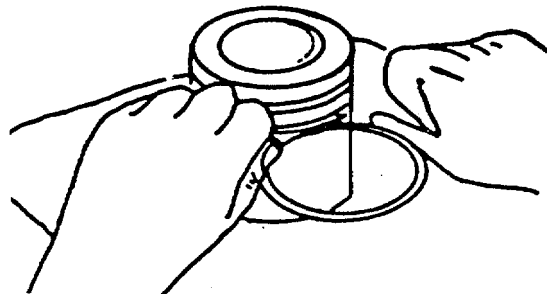

FIGURE 4-37. Measuring Piston Ring Clearance
- c. Use a new piston ring to measure the clearance in the ring groove as shown in FIGURE 4-37.